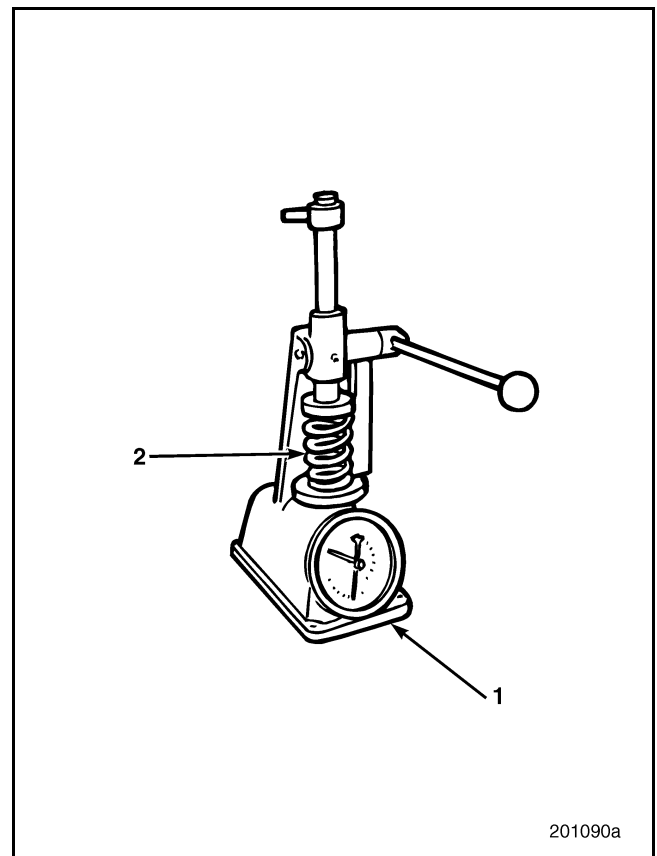

Figure 246 — Checking Valve Spring Pressure
4. Using a spring tester as shown in Figure 246, measure the effort required to compress a spring.